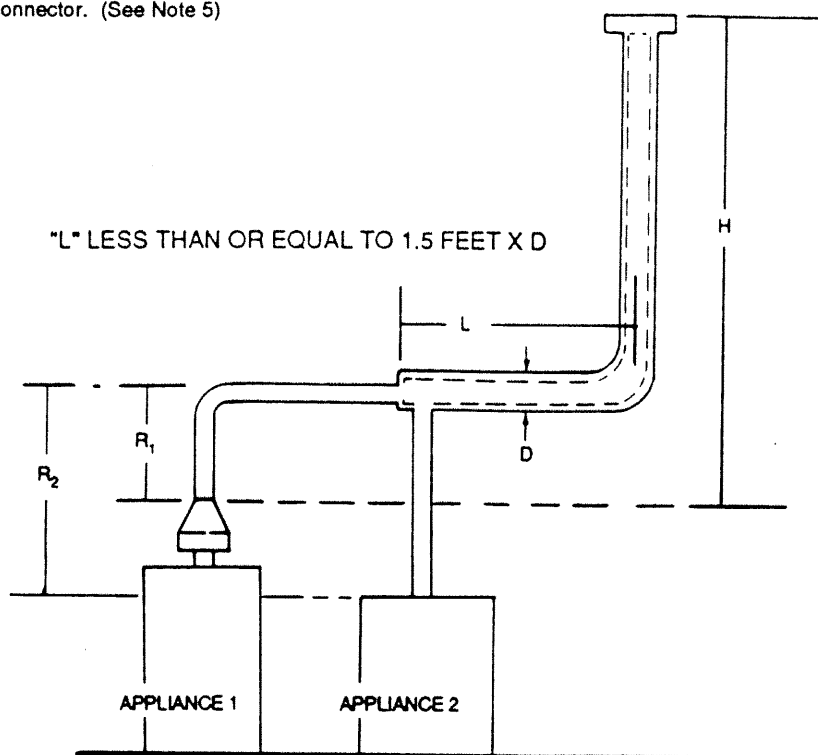

FIGURE 13
5. If vent connectors are combined prior to entering the common vent, the maximum common vent capacity listed in the common venting tables must be reduced by 10% ($0.90 \times$ maximum common vent capacity). See Figure 13. The length of the common vent connector offset (Lo) should not exceed 18 inches (one and one half feet) for each inch of common vent connector diameter.